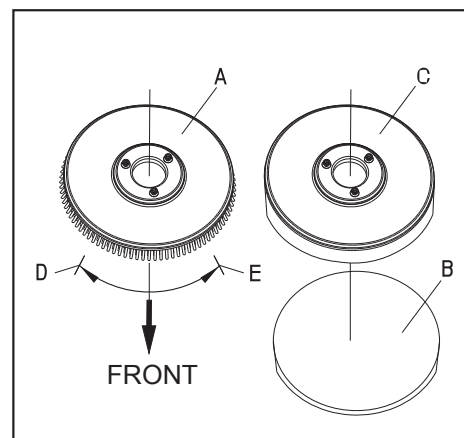

FIGURE 3
According to the type of floor to be cleaned, the machine may be installed with brush (Figure 3, A), or a pad-holder (Figure 3, B and C).
1. Make sure the power cable (9) disconnecting the power supply and the switch (38) is at the disconnecting (Off) condition.
2. Press down the handle (2) to lift the tank body (26).
3. Put the brush (A) or the pad-holder (B – C) under the case.
4. Use the handle (2) to lower the tank body (26) to come into contact with the brush or pad-holder.
5. Manually attach by following the arrow head (D) to install the brush/pad-holder (as shown in Figure 3).
6. Remove by turning the brush/pad-holder in the opposite direction and it can be taken off. (Figure 3)